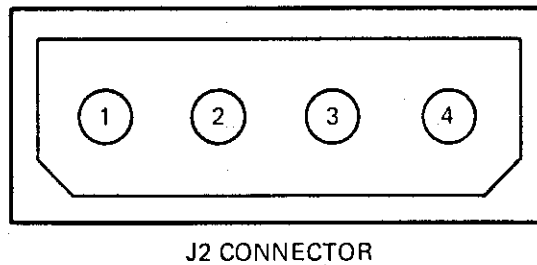

Figure 2-6. J2 Connector Outline
2.3.2.2 Power Connector. The DC power connector (J2) is mounted opposite J1 on the component side of the PWB. Power connector J2 is a 4-pin AMP P/N 1-480426-0. The recommended mating connector P2 is AMP P/N 1-480424-0 which uses AMP pins P/N 60619-1. The recommended wire size is no. 18 AWG. Figure 2-6 shows the pin-numbering sequence of J2. The 5V and 12V power returns are tied together and connected to the chassis at the disk drive.